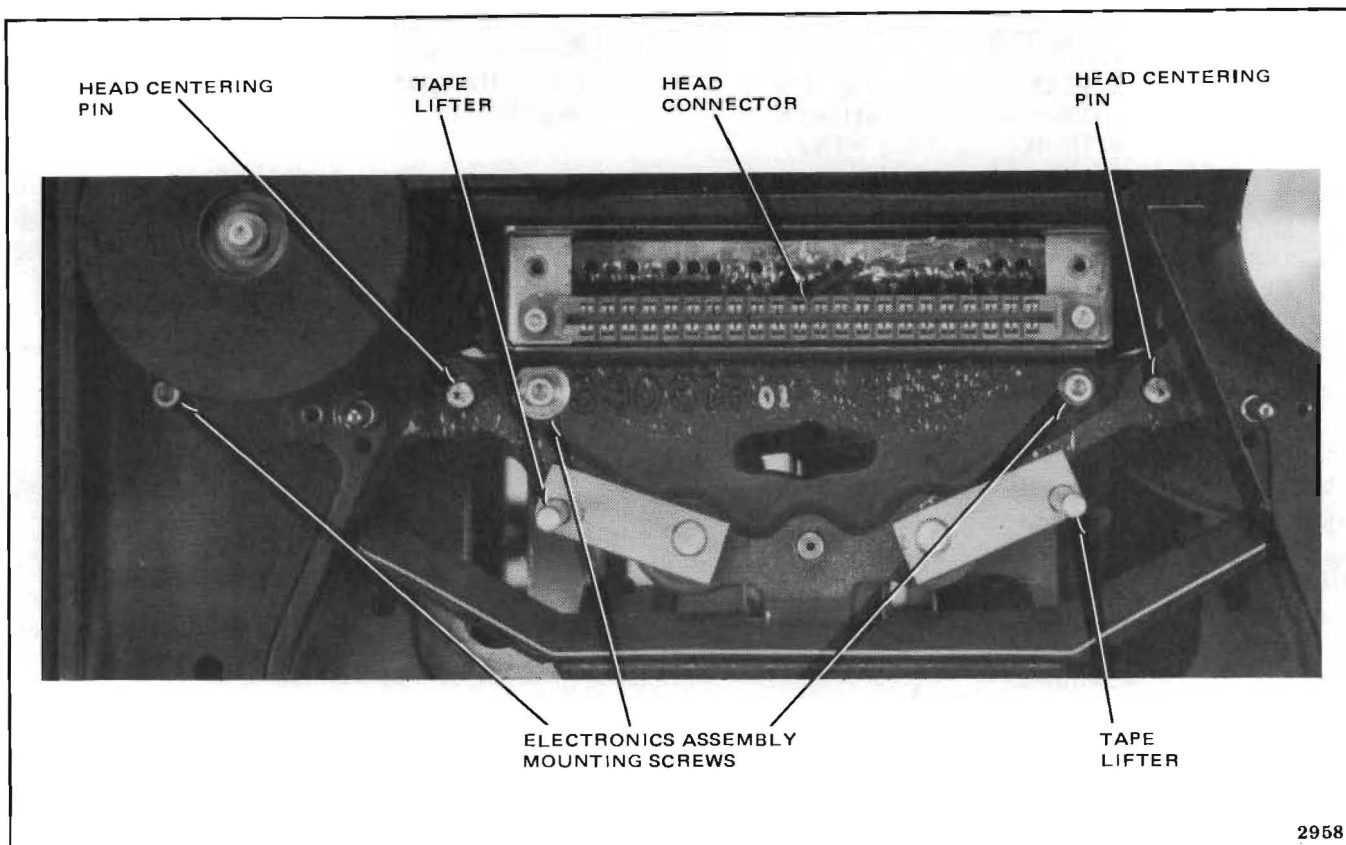

Figure 5-38. Top View of Transport with Head Assembly Removed
1. Carefully lower head assembly over transport to mate the head-centering pins (Figure 5-38) on the transport into the bottom of the head assembly. Lower head assembly onto transport and fully mate the head connector.
- a. Carefully lower head assembly over transport to mate the head centering pins (Figure 5-38) on the transport into the bottom of the head assembly. Lower head assembly onto transport and fully mate the head connector.